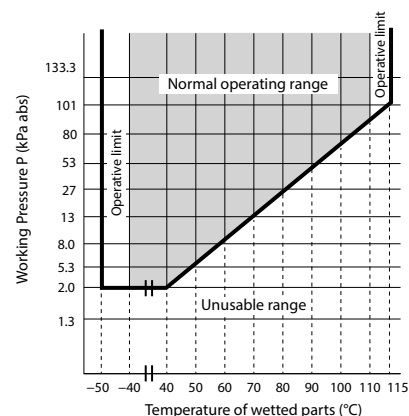

Figure 1. Working pressure and temperature of wetted parts section (for code A of Fill fluid)
GTX31D	2.0 kPa abs to 21 MPa {0.29 psia to 3,045 psi} {15 mmHg abs to 210 kgf/cm ² } ^{*1 *2 *5} (For vacuum pressure, see Figure 1, 2)
GTX32D	2.0 kPa abs to 42 MPa {0.29 psia to 6,091 psi} {15 mmHg abs to 420 kgf/cm ² } ^{*3} (For vacuum pressure, see Figure 1, 2)
GTX41D	2.0 kPa abs to 21 MPa {0.29 psia to 3,045 psi} {15 mmHg abs to 210 kgf/cm ² } ^{*1 *2 *5} (For vacuum pressure, see Figure 1, 2)
GTX42D	2.0 kPa abs to 42 MPa {0.29 psia to 6,091 psi} {15 mmHg abs to 420 kgf/cm ² } ^{*3} (For vacuum pressure, see Figure 1, 2)
GTX71D	2.0 kPa abs to 20 MPa {0.29 psia to 3045 psi} {15 mmHg abs to 210 kgf/cm ² } ^{*1 *2 *5} (For vacuum pressure, see Figure 1, 2)
GTX72D	2.0 kPa abs to 42 MPa {0.29 psia to 6,091 psi} {15 mmHg abs to 420 kgf/cm ² } ^{*3} (For vacuum pressure, see Figure 1, 2)
*6 For vacuum pressure, see Figure 1, 2.